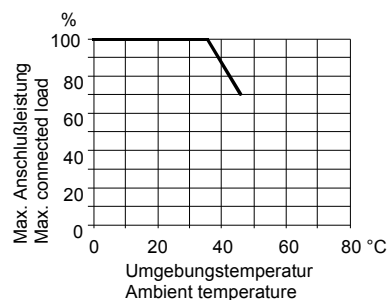

Figure 3. Max. connected load, depending on the ambient temperature
- If the device is mounted in a cavity floor or is used for overhead or horizontal installation the reduction of the maximum connected power as shown in figure 3 applies.